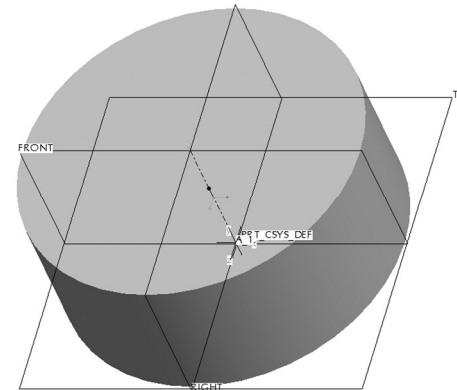

Fig. 2.32.
9. Accept the feature creation.	<p></p> <p>Refer to Fig. 2.32.</p>